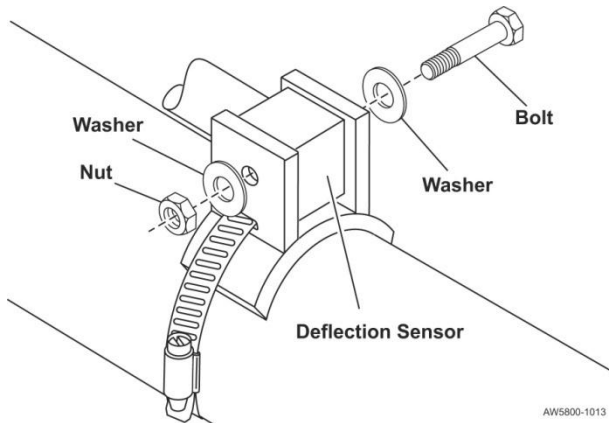

Figure 12. Inserting Bolt and Washers into Sensor and Bracket
- G. Slide the bolt through the bracket holes nearest the sensor cable, from the front of the vehicle to the rear. See Figure 12.